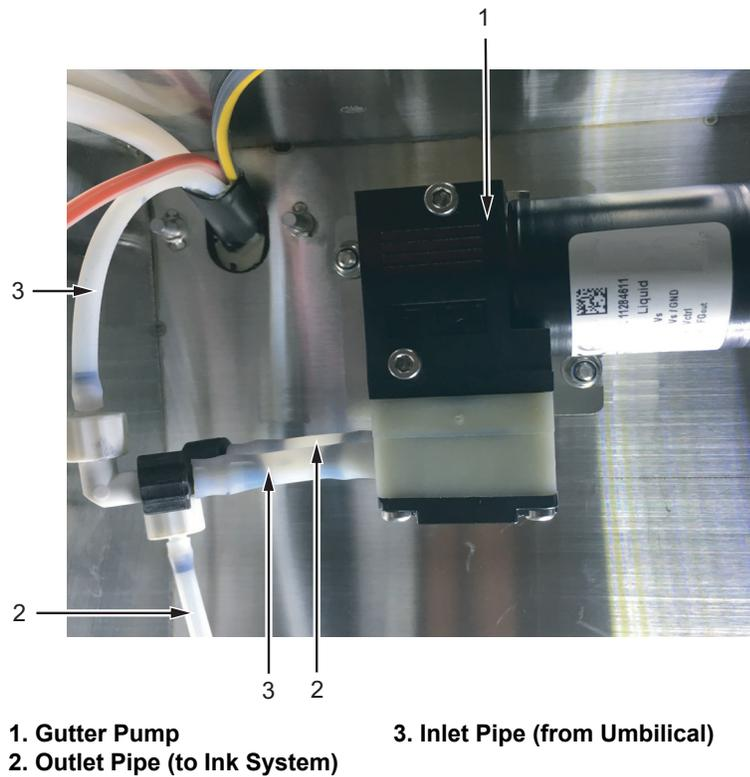

Figure 4-10: Gutter Pump Connections
15. Make sure that the inlet and outlet pipes are connected to the gutter pump (see Figure 4-10).